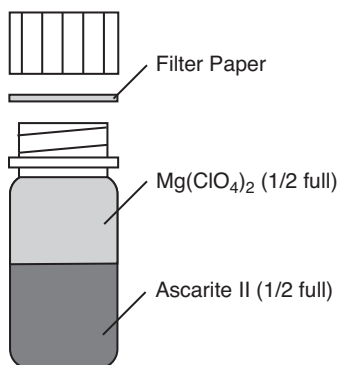

Figure 7-8. Fill the bottles ½ full with Ascarite II, followed by magnesium perchlorate.
4. If you are preparing your own chemical bottles, dispose of the exhausted chemicals and prepare the new bottles by filling them with equal parts Ascarite II and magnesium perchlorate (Figure 7-8). Fill the bottles 1/2 full with Ascarite II first, followed by the magnesium perchlorate. Place a filter paper disk in the lid to keep the chemicals from spilling into the detector housing.
6. Remove the optical bench if necessary to access the chopper housing chemical bottle cover. Remove the 4 screws on the bottle cover. Remove the two chemical bottles and recharge as shown in Figure 7-8.